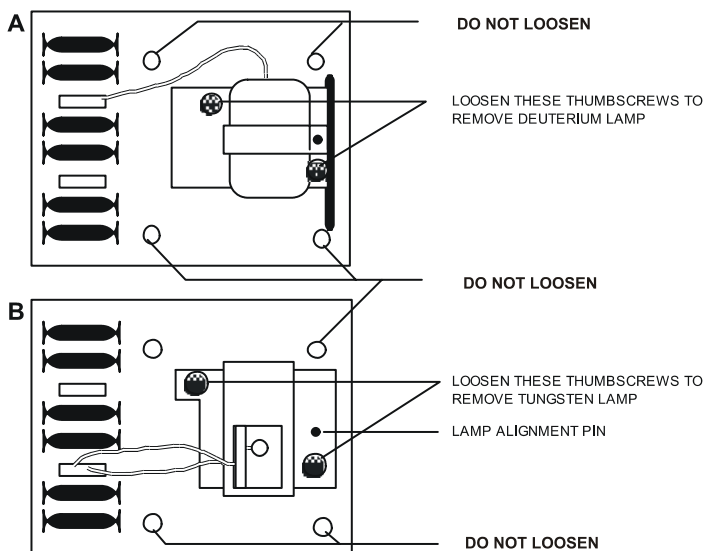

Figure 11: Lamp Assemblies (A: Deuterium, B: Tungsten)
3. Disconnect the UV lamp lead from the detector by gently pulling it straight back toward you. DO NOT twist the connector while pulling (see Figure 11).